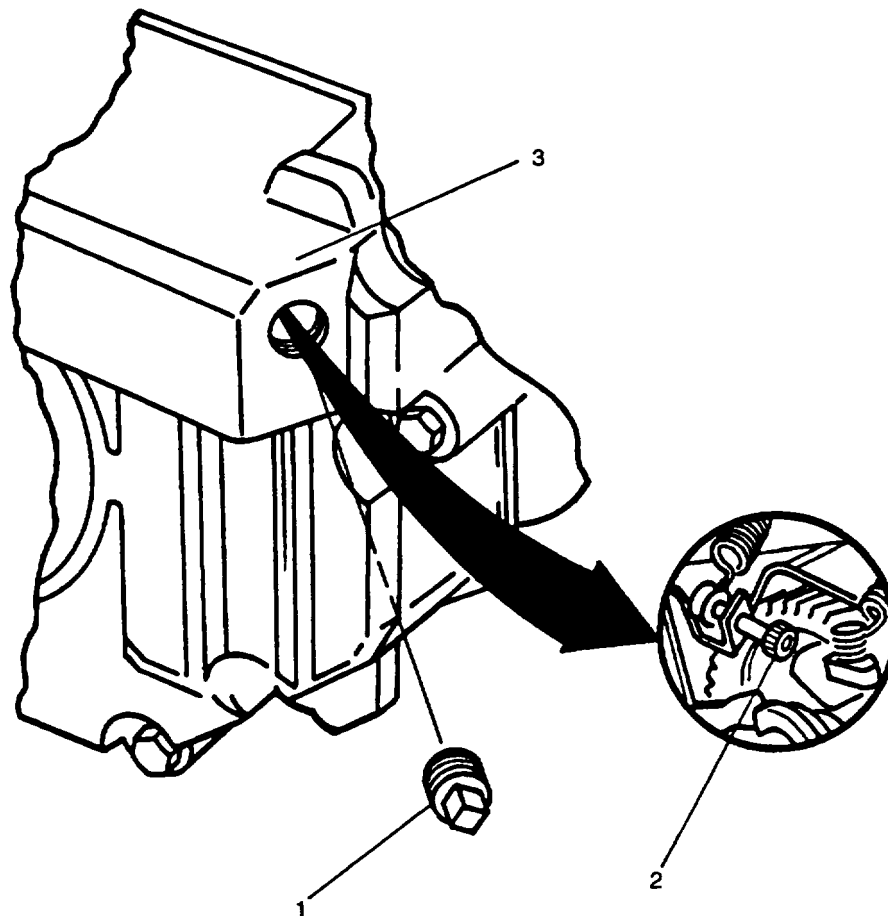

FIGURE 4-13. Frequency Droop Adjustment
- d. Remove plug (1, FIGURE 4-13) from engine governor housing (3).